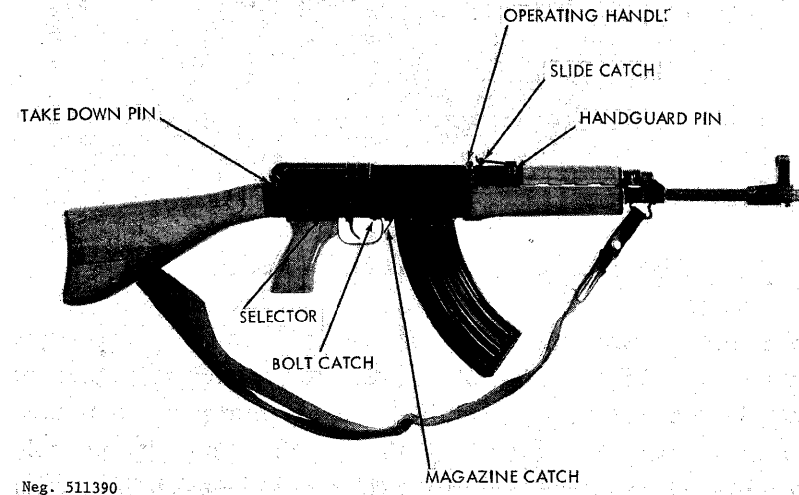
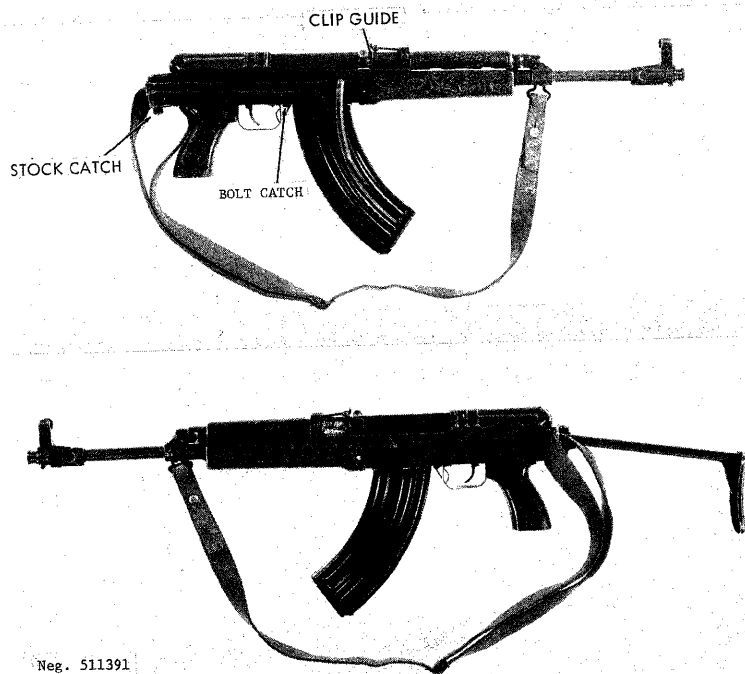
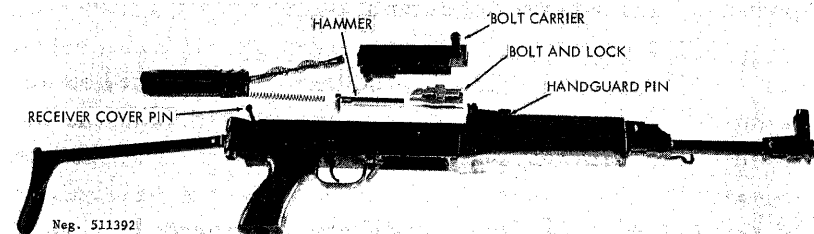

Figure 91. Czechoslovak M58P assault rifle.
Figure 92. Czechoslovak M58V assault rifle.
Figure 93. M58V field stripped.
a. The Czechoslovak-designed and produced Vz58 assault rifle, a gas-operated, selective fire, box magazine-fed weapon, is the standard shoulder arm of the Czechoslovak Army. These assault rifles have also been sold to several other nations. Two versions of this rifle exist: The Vz58P (fig 91), with a
conventional fixed butt stock, and the Vz58V (fig 92), with a folding metal butt stock. Early production weapons had wooden forearms, pistol grips, and, in the case of the Vz58P, butt stocks, current production weapons have these components fabricated from a wood fiber-filled plastic material.
a. Load the magazine, using 10-round SKS stripper clips (para 113a). With an empty magazine in the weapon, fully retract the operating handle (fig 91) and release it. The bolt mechanism will be held open. Place a stripper clip into the clip guides (fig 92) formed at the top front of the bolt carrier and, with the thumb as close as possible to the base of the top cartridge, press the cartridges off the clip and into the magazine (fig 91). Remove the empty stripper clip and repeat until 30 rounds have been loaded. If SKS stripper clips are not available, load the magazine as for the AK-47 (para 89a) and, after loading, engage the T-lug on the front of the magazine with its recess in the magazine opening of the receiver. Then swing the magazine rearward until the magazine catch snaps into place. Alternatively, individual cartridges can be pressed into the magazine one at a time with the magazine in place in the receiver.
c. Unless the rifle is to be fired immediately, put it on safe by rotating the selector (fig 91) to the vertical position. This locks only the trigger; the bolt can be opened if necessary.
d. If the rifle is a Vz58V, the best firing results are obtained by using the stock to brace the rifle. Press up the stock catch (fig 92) at the rear of the receiver and swing the stock sideways until it locks in its extended position. The stock is folded by pressing in the stock latch and swinging the stock forward.
f. The front sight is adjustable for zero. Refer to paragraph 95b(2) for the procedure to be followed.
h. Remove the magazine by pressing the magazine catch (fig 91) toward the magazine; then swing the magazine forward and out of the receiver.
i. To clear the Vz58, set the safety to its vertical (safe) position, remove the magazine, and pull the operating handle fully to the rear. Press up on the bolt catch (fig 91) located at the right front of the trigger guard and release the operating handle. The bolt will remain open. Inspect the receiver and chamber to insure that no cartridges are present, then pull the operating handle to the rear and release it. Rotate the selector to "30" or "1", press the trigger, and then rotate the safety to its vertical (safe) position. Insert the magazine.
(1) Clear the weapon (para 105i), but do not insert the magazine or put the weapon on safe. If the weapon is a Vz58V, extend the stock.
(2) Pull the receiver cover pin, located at the top rear of the receiver (figs 91 and 92), to the right as far as possible. Press the receiver cover slightly forward and lift up its rear end. Ease the receiver cover rearward and remove it along with the hammer and the driving springs.
(3) Pull the operating handle fully rearward. Then, with an upward motion of the operating handle, rotate the bolt carrier and the bolt from the receiver.
**CAUTION:** The bolt and lock (fig 93) may fall free from the carrier; if the bolt and lock do not fall free, pull the hammer (fig 93) to the rear and lift off the bolt and lock.
(4) Pull the handguard pin (figs 91 and 92) (located at the front of the rear sight base) to the right as far as possible and lift off the handguard. Grasp the shaft of the gas piston and force